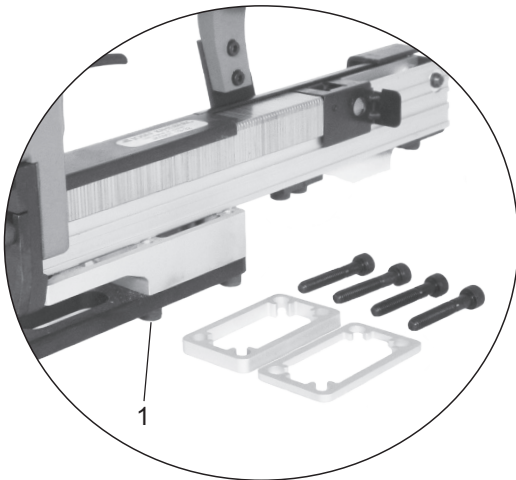

Fig. 4
- Unscrew the four screws (Fig. 4/1) and remove.